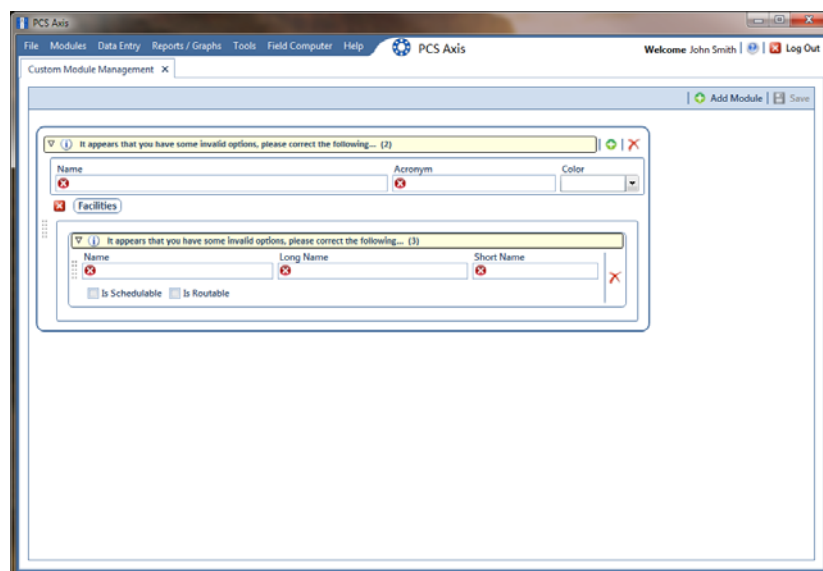

Figure 2-48. Custom Module Management
- 2 Open CMM and add a user defined module. Click **Modules > Custom Module Management >  Add Module** (Figure 2-48).